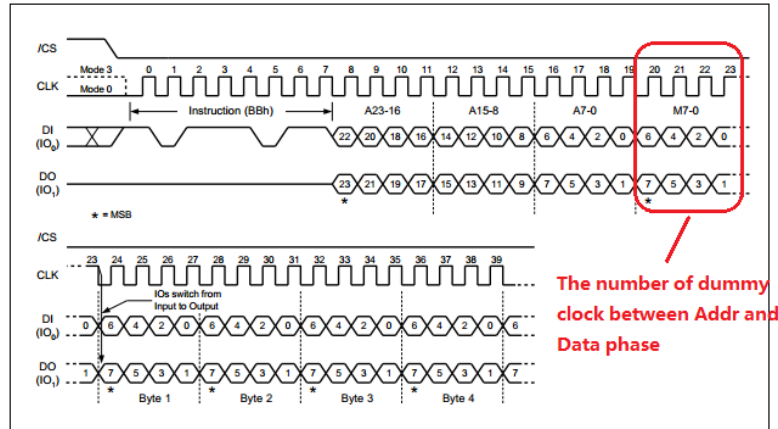

Fig 17-3 Fast read dual I/O instruction sequence
- There are 4 dummy cycles in Read Dual I/O mode, as Fig 17-3 shows.